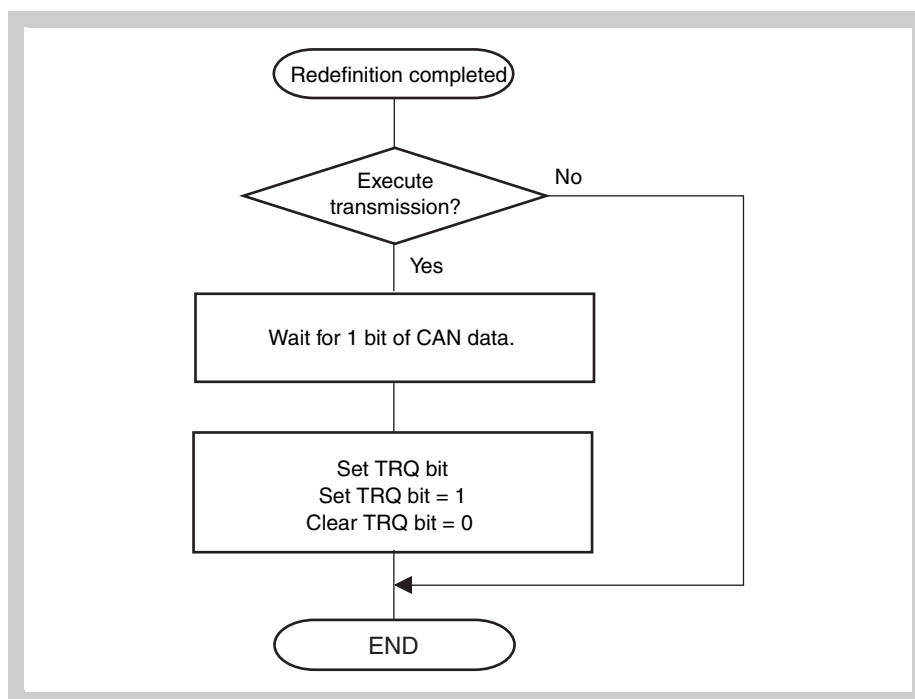

Figure 18-26 Setting transmission request (TRQ) to transmit message buffer after redefinition
2. When a message is transmitted, the transmission priority is checked in accordance with the ID, IDE, and RTR bits set to each transmit message buffer to which a transmission request was set. The transmit message buffer having the highest priority is selected for transmission. If the procedure in *Figure 18-26 on page 590* is not observed, a message with an ID not having the highest priority may be transmitted after redefinition.